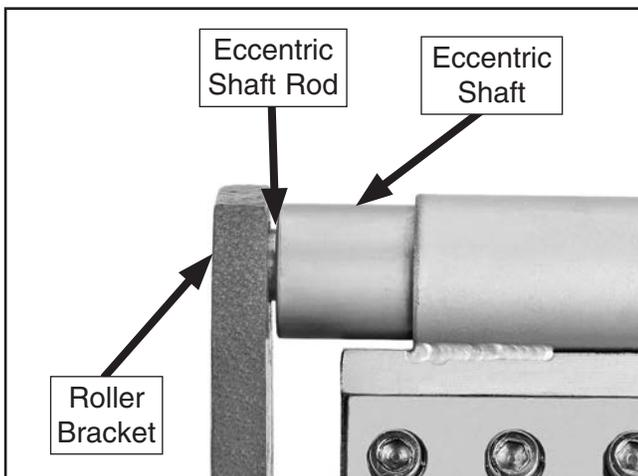

Figure 16. Eccentric shaft rod between the eccentric shaft and the frame.
- **Eccentric Shaft Rod.** Periodically or if the up-and-down finger movement becomes stiff, apply a couple of drops of light machine oil to the eccentric shaft rods on each end of the eccentric shaft (see **Figure 16**). The rods are accessible between the eccentric shaft and the roller brackets. Rotate the lever front-to-back several times to distribute the oil, then wipe away any excess.